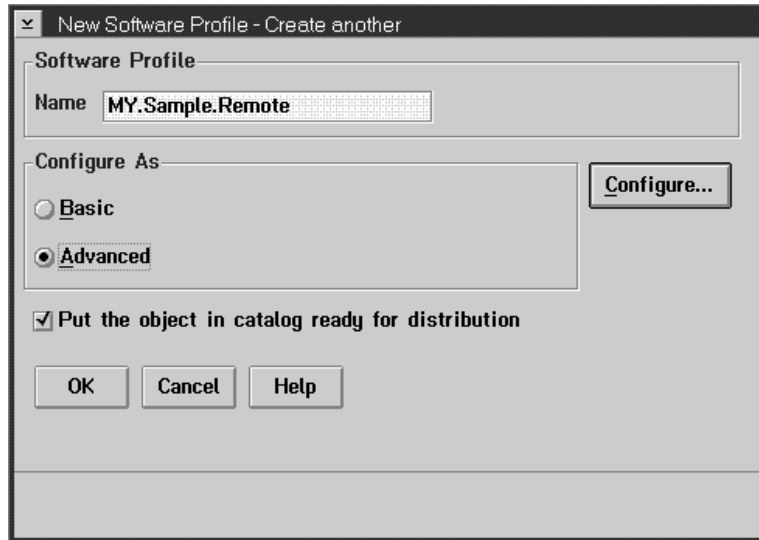

Figure 136. New software profile window
- 14 Close the notebook. The New Software Profile window appears again, as shown in Figure 136.